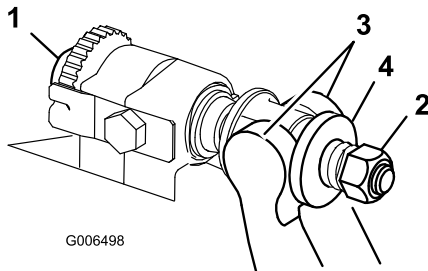

Figure 26
- Turn bedbar adjuster screws, counterclockwise, to back bedknife away from reel (Figure 26).
- Back out the spring tension nut, until the washer is no longer tensioned against the bedbar (Figure 26).